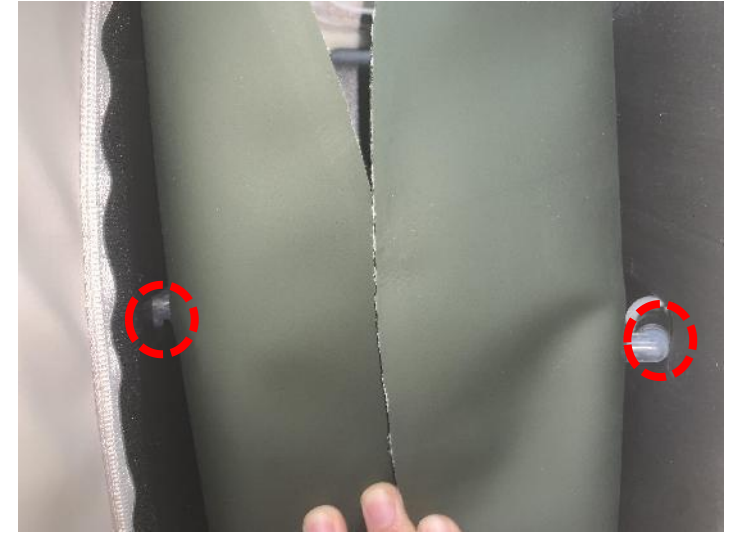

Figure 3
3. The air bag can be removed by separating the trachea (Figure 3)